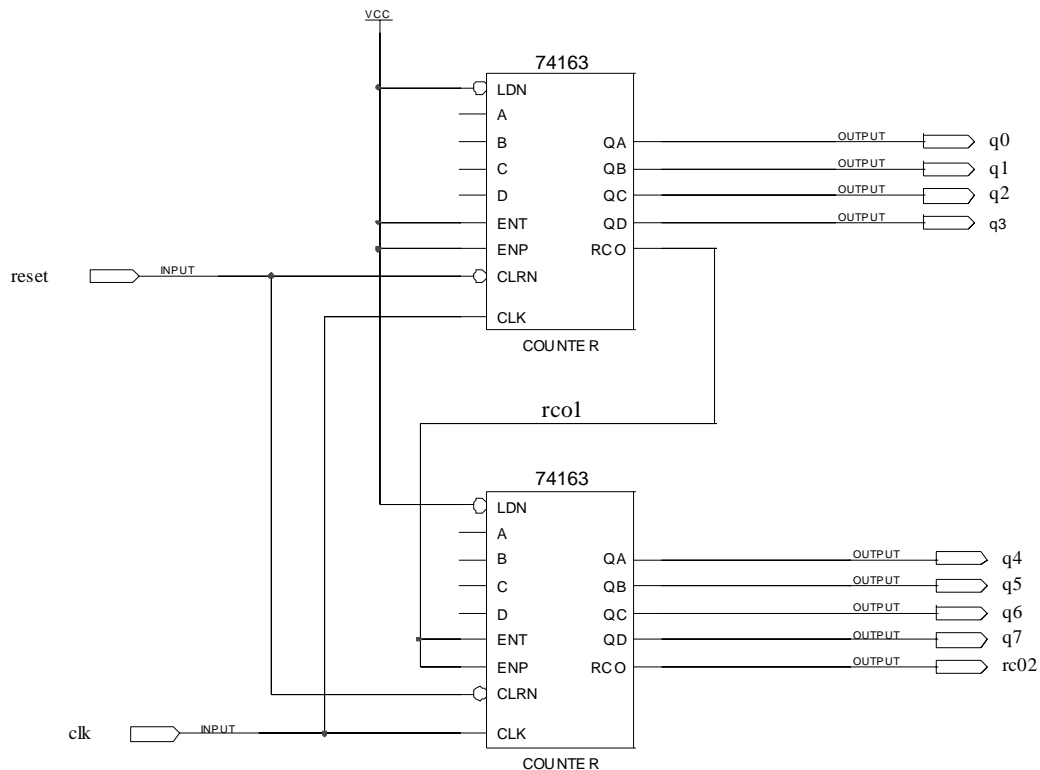

FIGURE 1. Simple 8-bit Counter
- Wire the two 74163 components into an 8-bit counter circuit as shown in Figure 1.
- Place **input** and **output** components on the schematic as shown in Figure 1. You'll find input and output components in the "primitives->pin" library. A convenient way to place the **output** pin components is to place one **output** part on the schematic. Label the output pin name **q0** by double-clicking the pin\_name and typing **q0**. Connect this pin to QA as shown in Figure 1. Then select it and use Ctrl-C and Ctrl-V to copy and paste a new output component. This will automatically get the name **q1**. Next, copy and paste the q1 output to get the q2 output pin, etc.
- Label the RCO output which connects to the ENT and ENP inputs of the other 74163 component as "rco1" as shown in Figure 1. To label the net, click the wire to select it and just type the name.
- Label the input and output pins by double-clicking the LMB on PIN\_NAME and typing the name for each pin as shown in Figure 1.